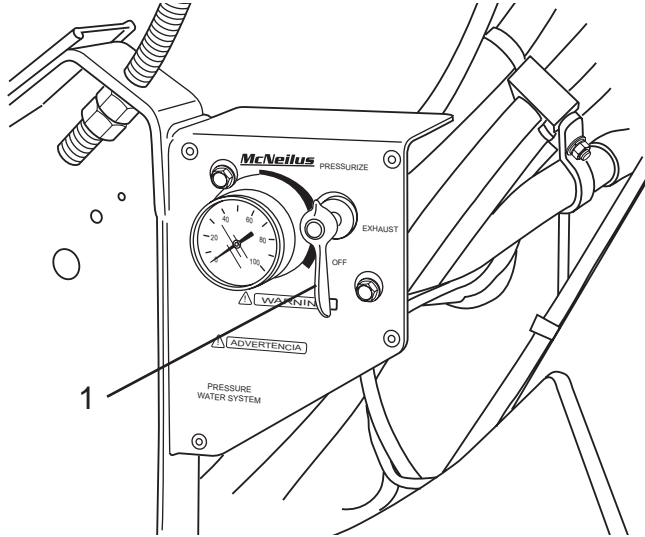

Figure 67
2. After pressure in the water tank has been completely exhausted, turn the air pressure control valve to the OFF position (Figure 67, Item 1).